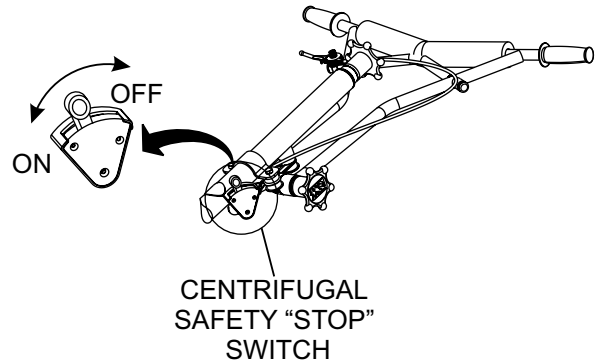

Figure 22. Centrifugal Safety "Stop" Switch (ON)
3. Place the *centrifugal safety "STOP" switch* (Figure 22) in the "ON" position.